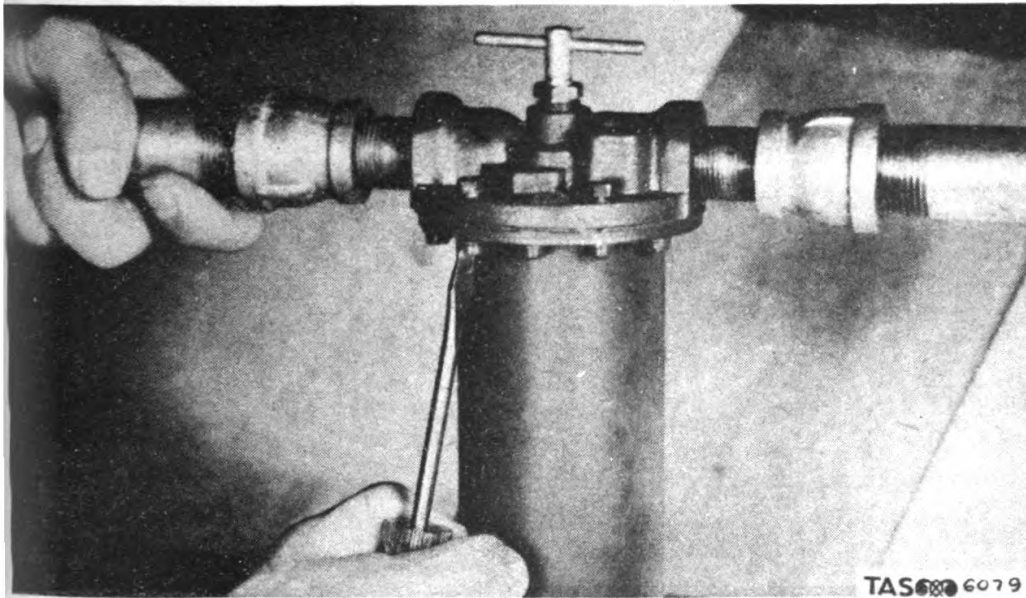

Fig. 79. Loosening Screws Under Rim and Top of Sump Assembly.
2. Hold 1/2" elbow on pump side with wrench and twist filter and pipe fittings loose at nipple on pump side. (See fig. 79.)	2. Hand and pipe wrench.